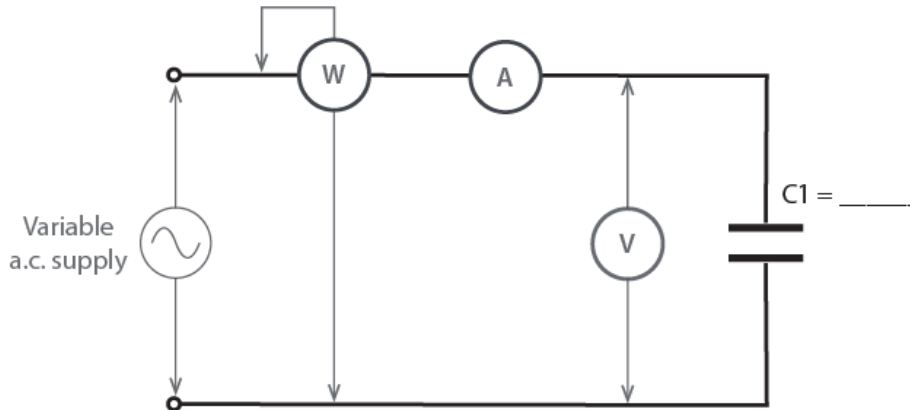

Figure 2
2.2.1 Connect up the circuit as shown in Figure 2 below.